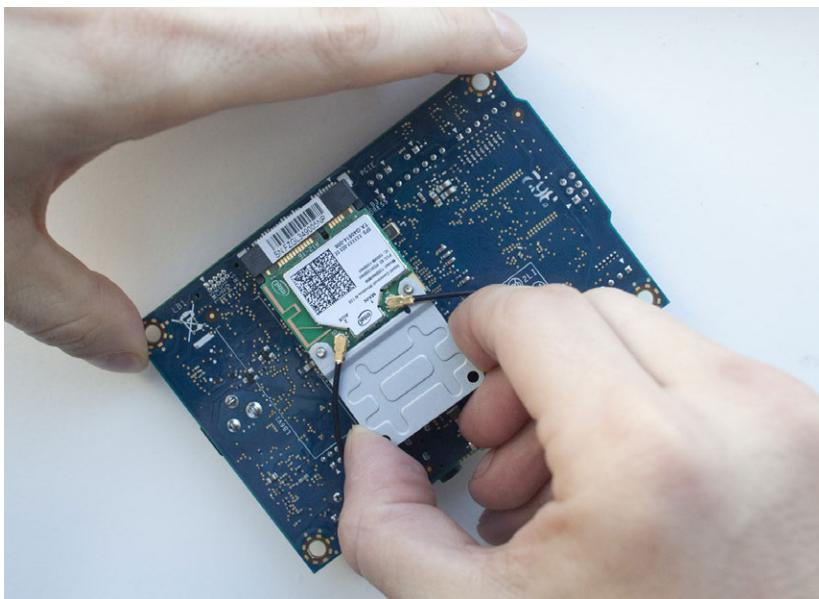

Figure 6-2. Attaching a WiFi Mini PCI Express card to Galileo
1. With the board disconnected from USB and power, insert your WiFi module on the bottom of the board (Figure 6-2).